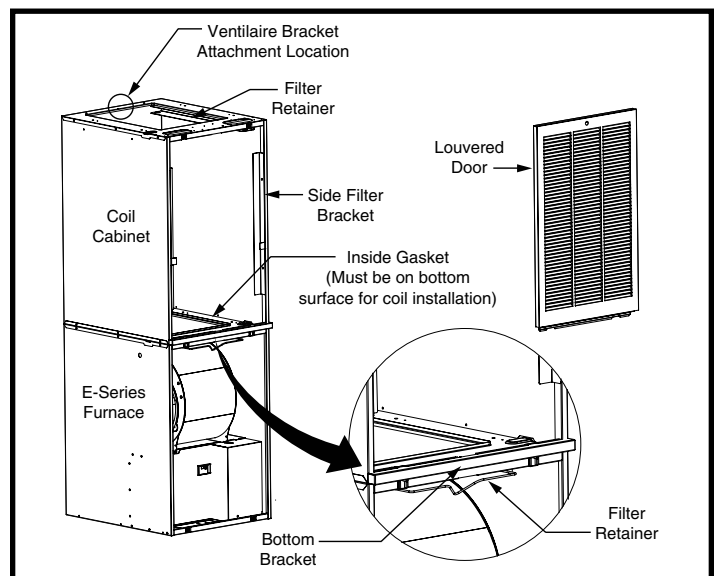

Figure 2. E Series Downflow Coil Cabinet
3. Remove the 18" x 30" filter and the louvered door from the coil cabinet and the 18" x 20" filter and filter retainer from the E series furnace. The filter retainer can be discarded. See Figure 2.
4. Install the VentilAire duct to the top of the coil cabinet at the location shown in Figure 2.
**NOTE:** Make sure the inside gasket surface is on the bottom, the gasket on the outside of the cabinet remains intact, and airflow passage between the furnace and coil cabinet are aligned and unrestricted. See figure 2.
9. Install the bottom bracket (white painted) by placing the tabs over bottom edge of coil cabinet as shown in Figure 2.